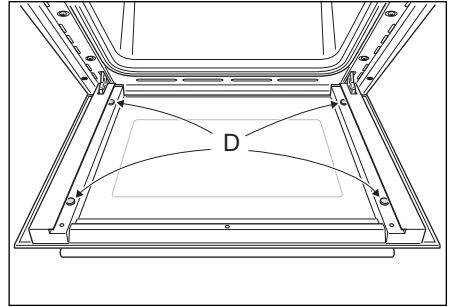

Fig.54a
- Check that the four rubber pads are in place ("D" in Fig. 54a).